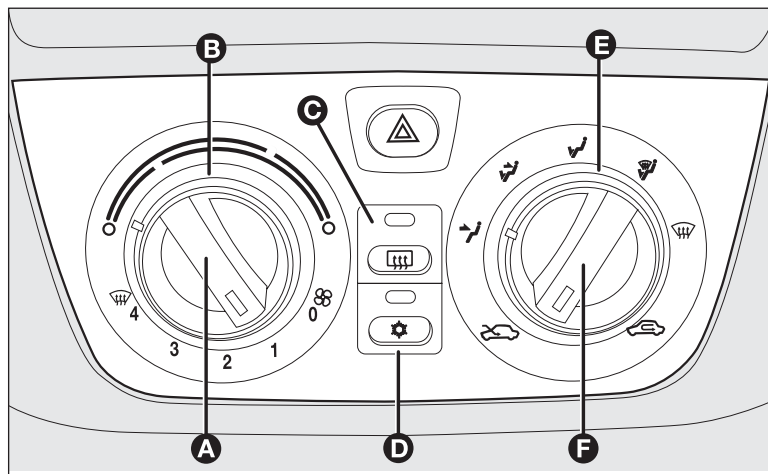

fig. 59
Turn the ring **B-fig. 59** (indicator pointing to the red sector) rightwards to turn the temperature up or leftwards to turn it down;
- turn the ring **B-fig. 59** to the blue sector;
Position the knob **F-fig. 59** to .
- turn the ring **B**-fig. 59 to the red sector;
- stop internal air recirculation by turning knob **F**-fig. 59 to .
Press button **C-fig. 59** to activate the function. The LED in the button will light up when the function is on.
- turn the ring **B-fig. 59** to the blue sector to select the temperature;
- stop internal air recirculation by turning knob **F-fig. 59** to .